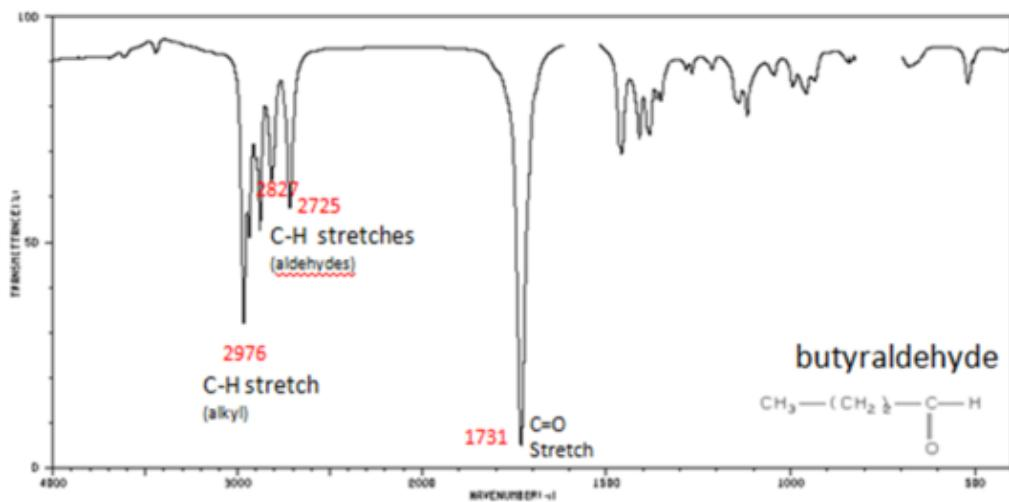

Figure-6: Typical IR spectrum of butyraldehyde
Vibrational and vibration-rotation (Infrared) spectra: These spectra originate from transitions induced between the vibrational energy levels of a molecule on the absorption of radiations belonging to the infrared region. IR spectra are shown by molecules when vibrational motion is accompanied by a change in the dipole moment of the molecule. These spectra occur in the spectral range of $400 - 4000 \text{ cm}^{-1}$. The presence or absence of functional groups, the extent of hydrogen bond (HB) interactions (intra and inter) in/between molecules, force constants of various types of bonds etc. can be determined from the IR spectrum of a molecule. A typical IR spectrum (vibration-rotation) of a butyraldehyde is given in the following figure-6.